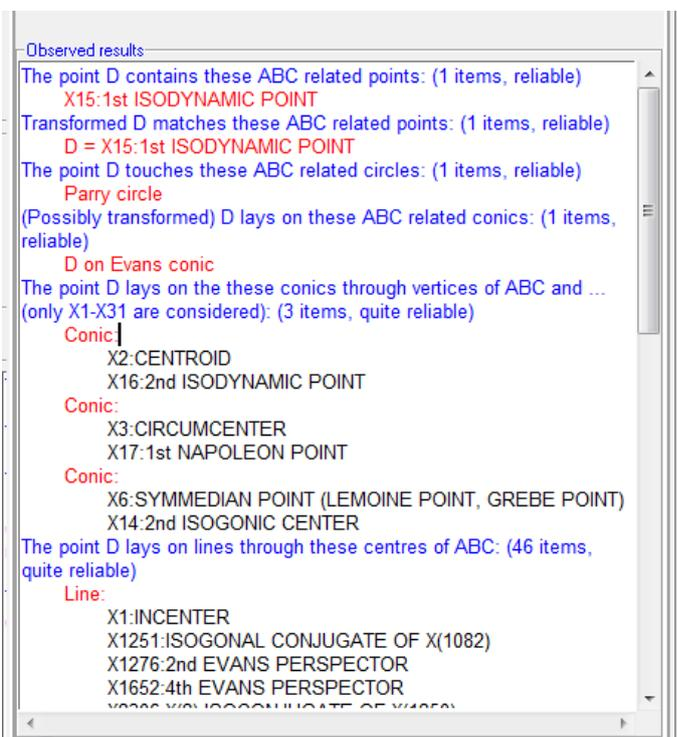

Figure 23
- Once you completed the schema in Figure 22, you can start the analysis by pressing the **Study** button. The reported results of the analysis are displayed in the **Observed results** section. Figure 23 shows an illustrative example of part of the displayed results (the analysed object is a point D).